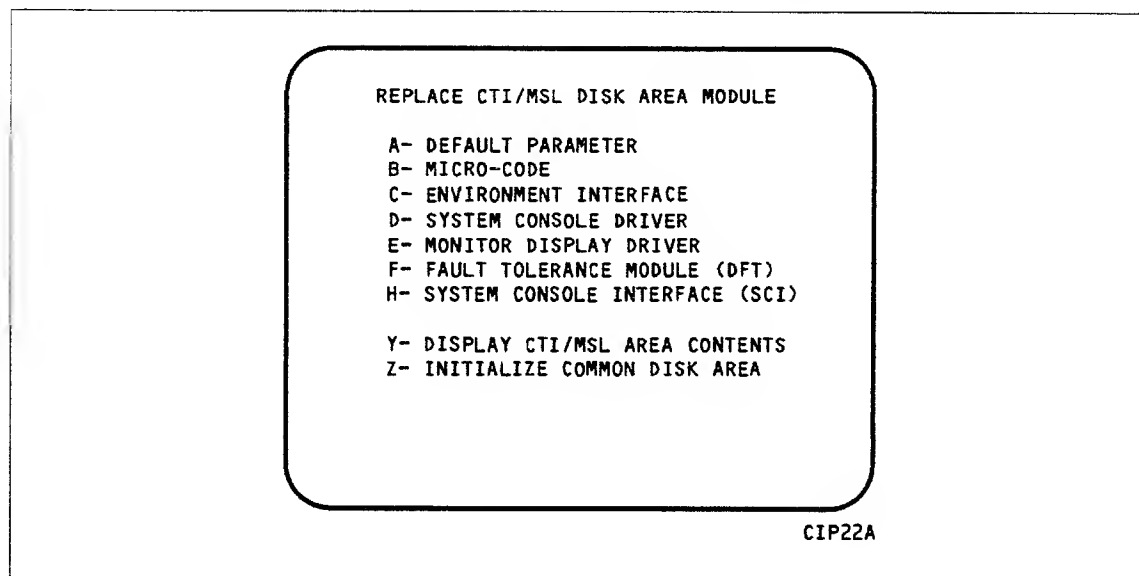

Figure 2-18. Replace CTI/MSL Disk Area Module
Select this option from the BUILD DEADSTART DISK display to replace microcode, EI, the CC634B SCD, MDD, DFT, DPB, SCI, or to initialize the CDA. When option D is selected, you are prompted to enter the disk channel and disk unit numbers. After you enter the channel and unit numbers or press (CR) to accept the default values shown, the REPLACE CTI/MSL DISK AREA MODULE display shown in figure 2-18 appears. Options A through H manually replace CIP modules in the CDA of the deadstart disk.